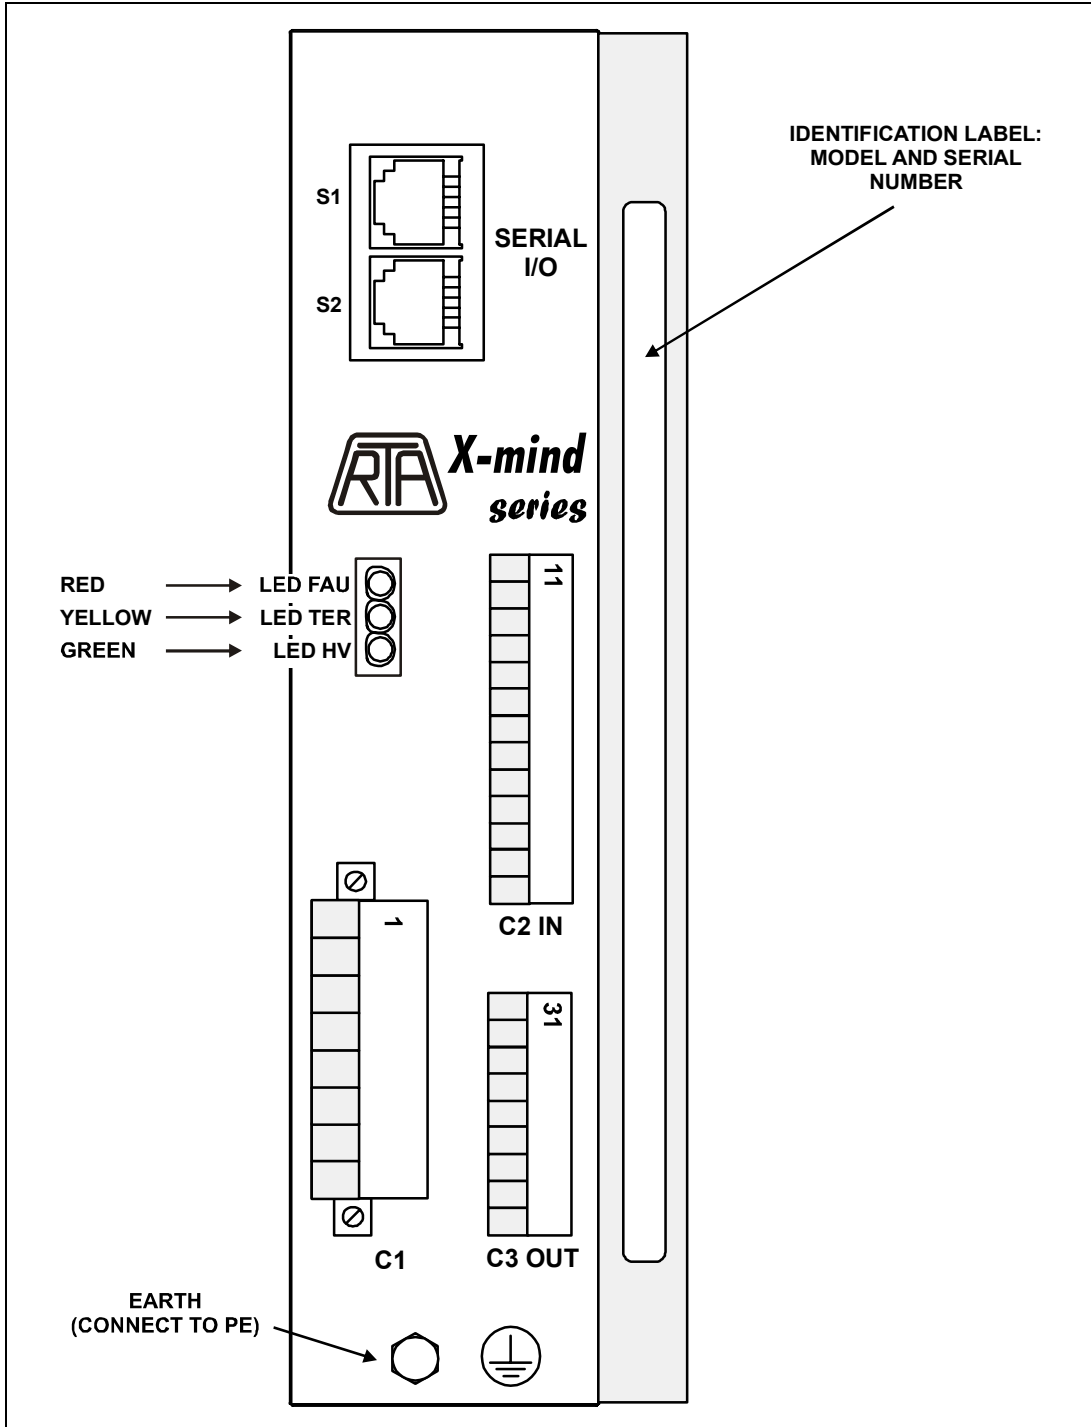

Fig. 6 – Led and connectors.
- 6.2- Fig. 6 shows the position of signalling LEDs, connectors and labels in X-MIND K series drives.